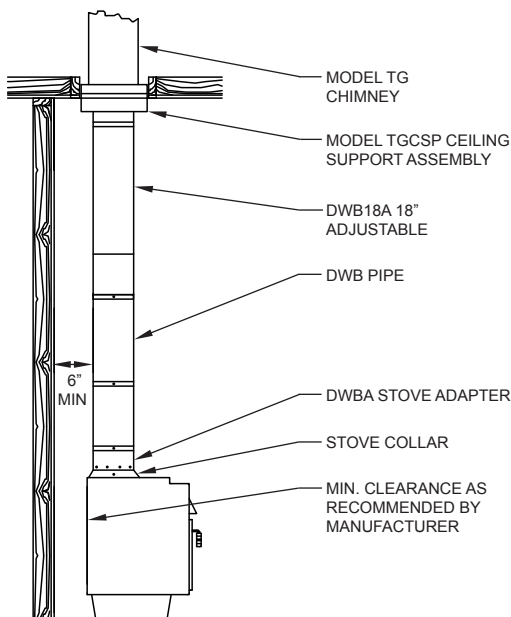

FIG. 2
- If Double Wall Black pipe sections (DWB) are to be used, the Double Wall Black Adapter (DWBA) is required to be attached at the stove collar. It may be necessary to attach the adjustable length (DWB18A) section to the chimney ceiling support prior to installing the sections. Secure the DWB18A to the ceiling support with sheet metal screws. Slide one section of DWB into the DWB18A to allow the second section of DWB to be positioned over the DWBA. The first section can then be slid down to engage the second section. Secure all joints with sheet metal screws (See **FIG. 2**).